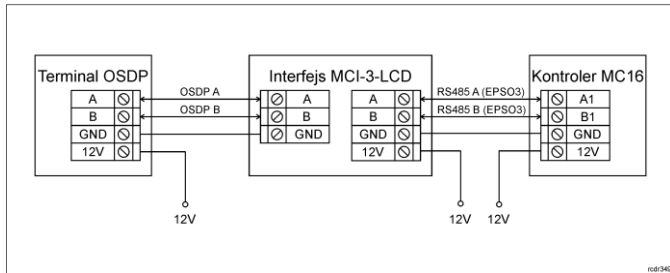

Fig. 4 Connection of MCI-3-LCD interface to OSDP reader and MC16 controller
1. Disconnect power supply and connect OSDP terminal(s) to MCI-3 interface (fig. 4/5)
- If devices are not supplied from the same power supply then according to fig. 4 and fig.5 their GND terminals must be connected with any wire.